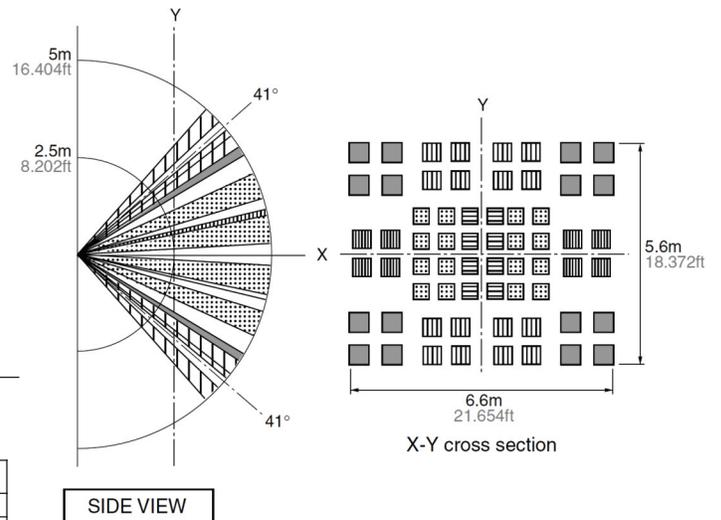

Figure 2: LC2 PIR occupancy sensor range
- PIR Occupancy / Vacancy Sensor** - Auto-dims LED lights when vacant. Brightens immediately when occupied. All timings are fully programmable. The occupancy sensor has a range of 5m (16.5ft) and adequately covers the area below the converted fixture as shown in Figure 2.